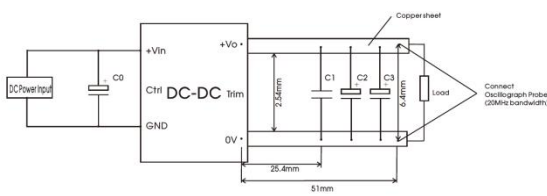

Fig.1
- ①The Ctrl pin voltage is referenced to input GND;
- ②The "Tip and barrel method" is used for ripple and noise test, for details please refer to Fig.1;
- ③If the product is used at an altitude above 2000m, it is necessary to ensure that the surface temperature of the product is lower than 130°C.
All the DC-DC converters of this series are tested before delivery using the recommended circuit shown in Fig.1.